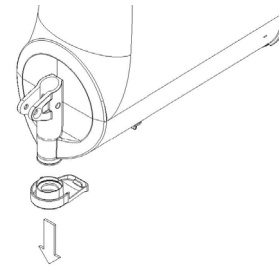

figure 13
- Remove the flow restrictor from the bowl (see figure 13).
7 Remove the flow restrictor from the container (see figure 13).
- 5** Remove the flow restrictor from the container (see figure 13).